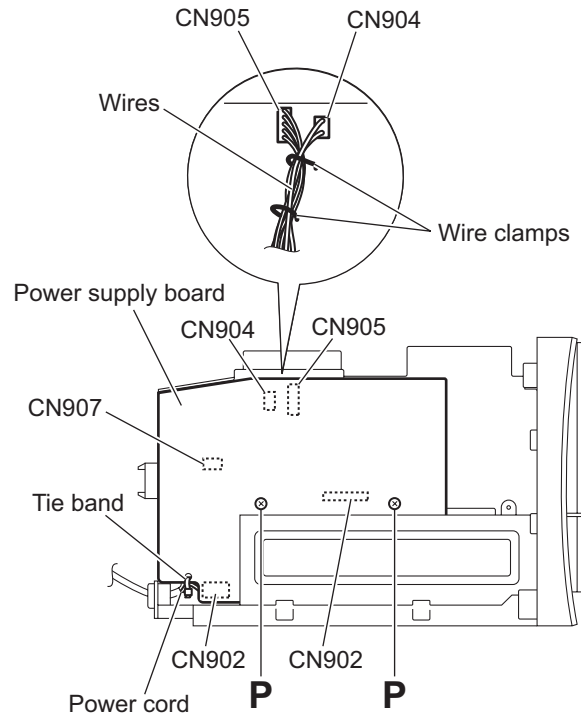

Fig.18
3.1.9 Removing the power supply board (See Fig.18)